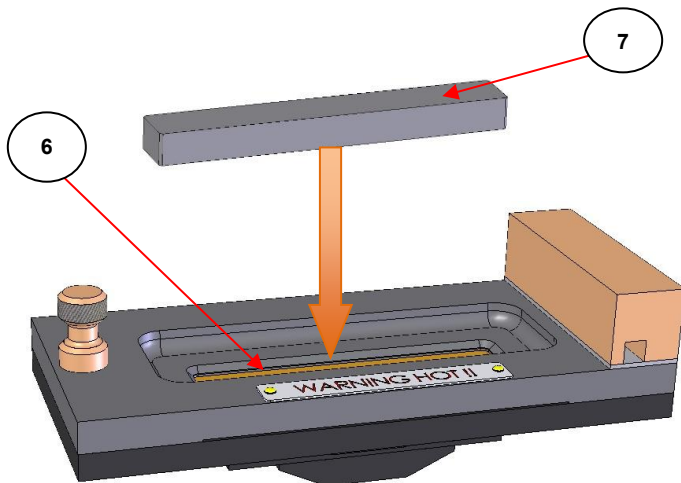

Fig 4. PTFE Pressure Bar Used With Electrically Heated Trough Top Plate
Although the Electrically Heated Trough Top Plate has been specifically designed for the ATR measurement of liquid sample types at elevated temperatures up to 200°C, flexible semi-solid, film type samples can be analysed by use of this Top Plate with the supplied PTFE pressure bar (7) and employment of the Gateway™ ATR Clamp Assembly fitted to the optical unit. (See **Fig 4.**)